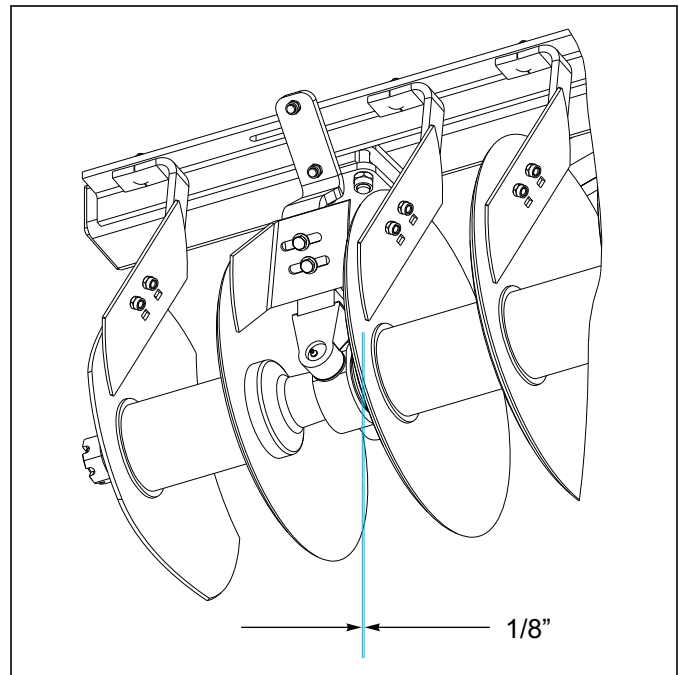

Figure 4-1: Disc Scraper Adjustment to Disc Blade
5. Check disc scrapers for proper adjustment to the disc blade (**See Figure 4-1.**)